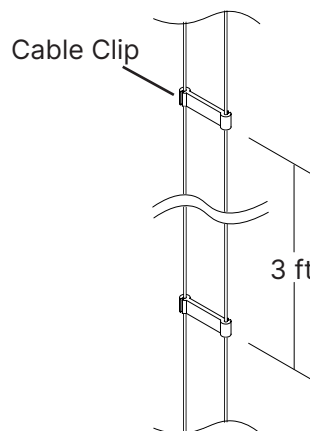

Fig. 22
- Note: Cable Clips should be spaced no more than 3ft apart (Fig. 22).**